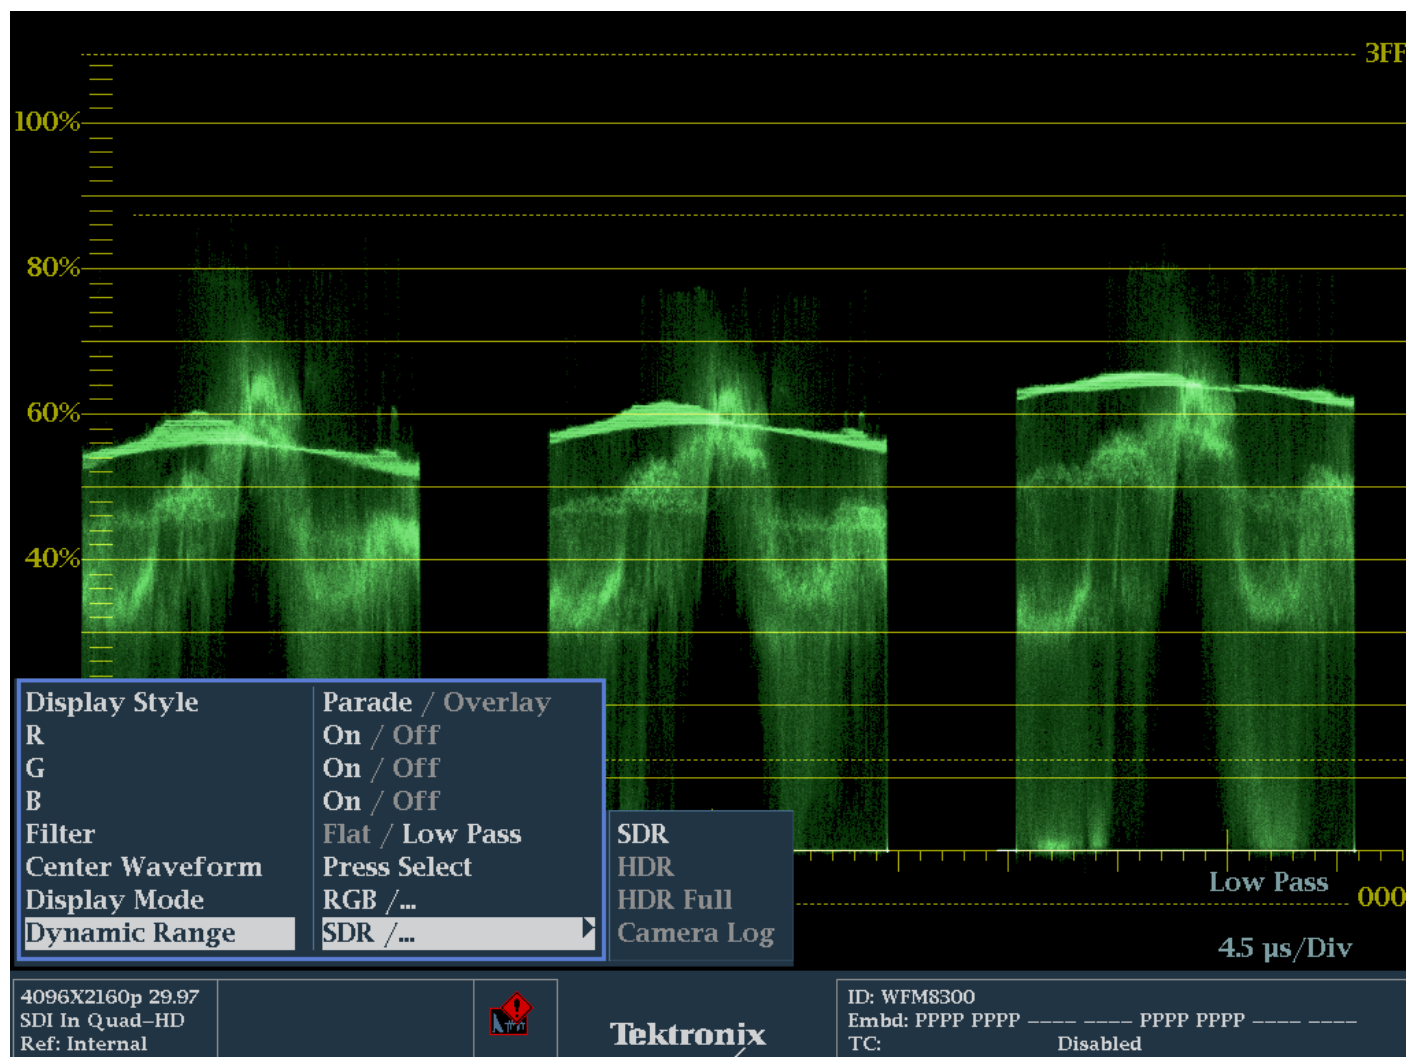

FIGURE 1. HDR Waveform Menu.
4. Using the general knob or up/down arrow keys navigate to and select **Dynamic Range** as shown in Figure 1.